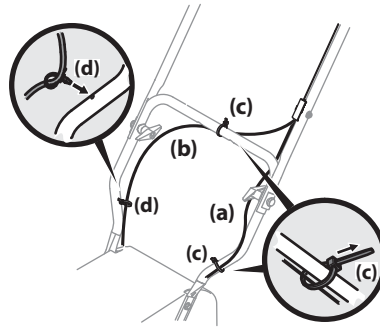

Figure 2-9
NOTE: The auger cable (a) routes down the left lower handle and the drive cable (b) is routed across the top of the lower handle and down the right side of the lower handle. See Figure 2-9.
6. Two cable ties (c) have been used to loosely tie the control cables to the lower handle, including the cable tie (c) you relocated in step 3. A push clip (d) is also included on the lower drive cable (b). Position cable ties (c) now, as in Figure 2-9, and tighten to secure cables (a & b) to the lower handle. Trim off excess material of cable ties (c). If not already installed, push the clip (d) on the drive cable (b) into the hole in the handle provided as shown in the left inset.